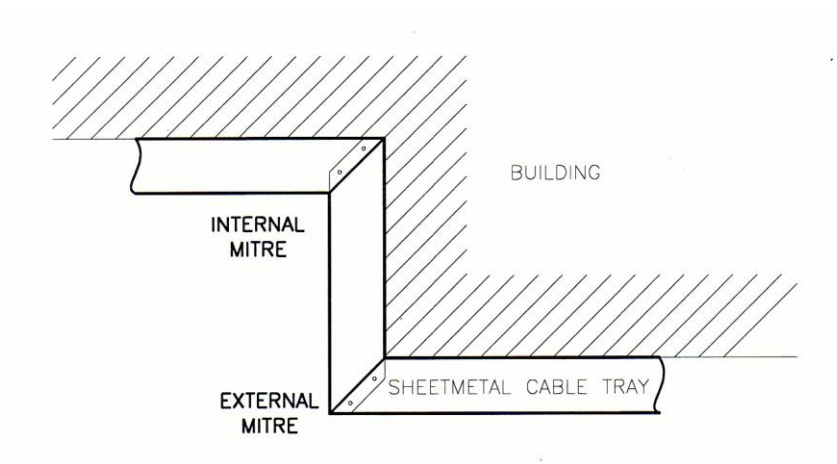

Figure 6 - An internal and an external mitre in cable tray.
20. A typical mitre is where a horizontal cable tray is to change direction horizontally at right angles. There are two basic types - a typical internal mitre and an external mitre are shown in Figure 6.